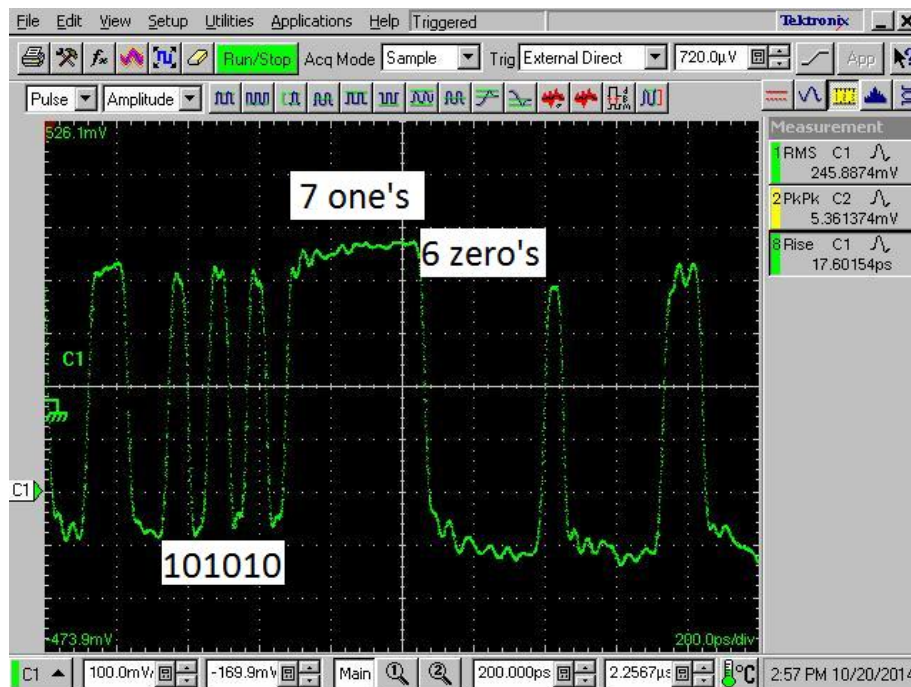

Figure 10. Correct PRBS7 pattern
- Adjust “Delay 1” and “Delay 2” sliders on the GUI in order to get the correct PRBS7 pattern which is shown in **Figure 10**.